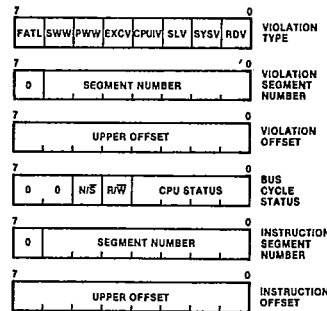

Figure 8. Status Registers
**Status Registers.** Six 8-bit registers contain information useful in recovering from memory access violations (Figure 8). The Violation Type Register describes the conditions that generated the trap. The Violation Segment Number and Violation Offset Registers record the most-significant 15 bits of the logical address that causes a trap. The Instruction Segment Number and Offset Registers record the most-significant 15 bits of the logical address of the last instruction fetched before the first accessing violation. These two registers can be used in conjunction with external circuitry that records the low-order offset byte. At the time of the addressing violation, the Bus Cycle Status Register records the bus cycle status (status code, read/write mode and normal/system mode).